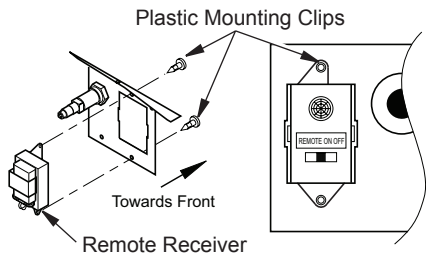

Figure 35 - Mounting Remote Receiver to Bracket
6. Use the clips to mount the receiver on remote mounting bracket as shown in Figure 35.